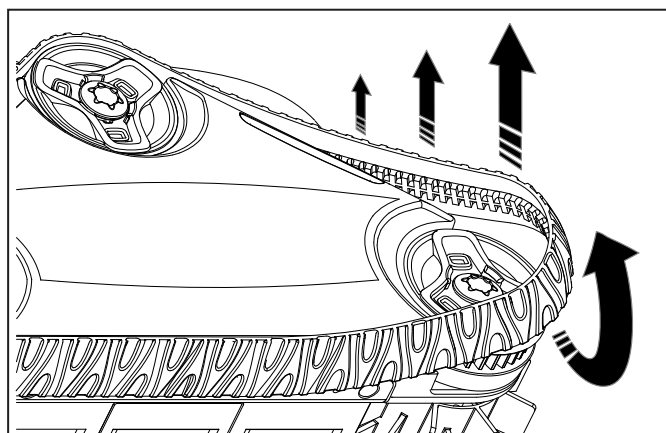

Figure 20. Pull the Track Over Wheels to Remove
- Starting at one of the wheels, pull on the inside of the track to separate the tire lip from the wheel. See Figure 20. Remove the track from the cleaner.